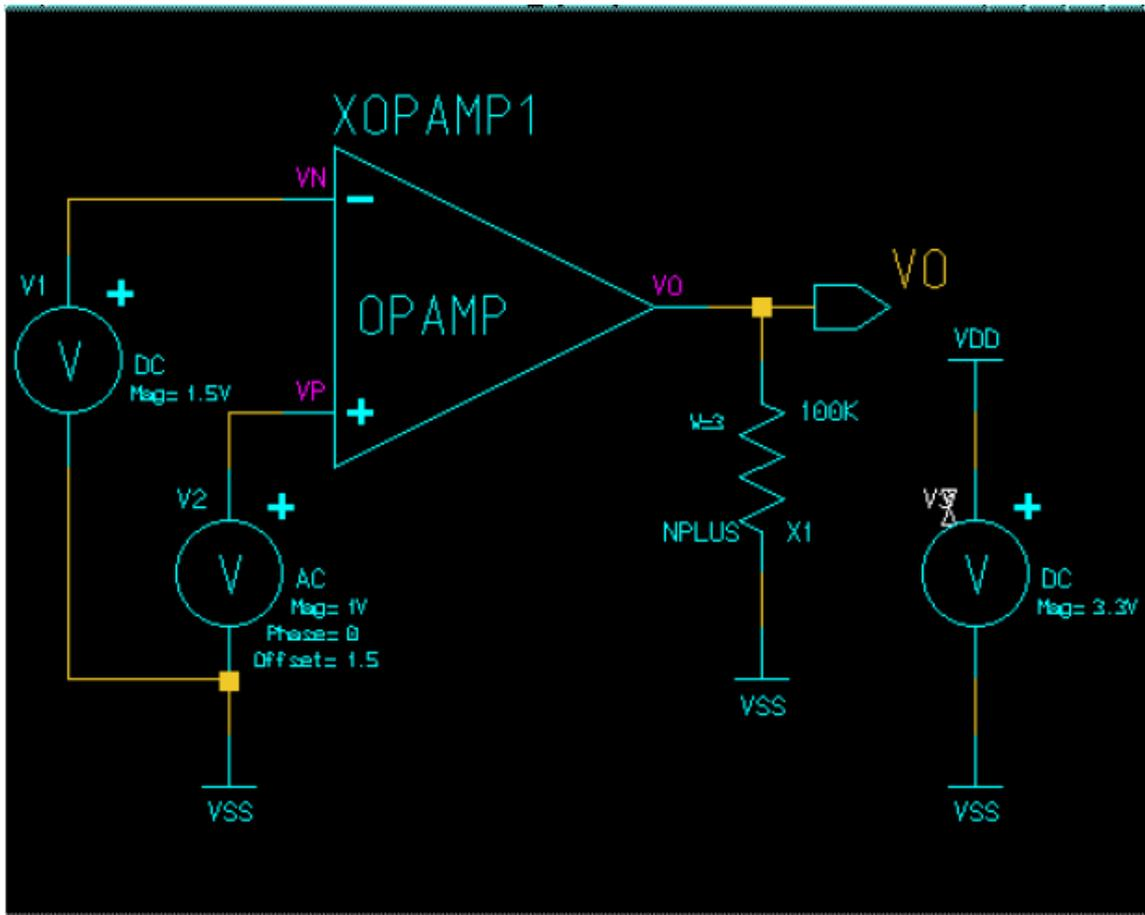

Figure 4.1 Creating a Test bench
**Step 4** Select *Library* to change the palette to *ic library*. Place all the components needed to build a test bench as shown in Fig. 4.1. Click *Schematic* to return to *schematic edit* palette.
**Step 6** Add an output port and name it 'VO', route the schematic as shown in Fig. 4.1. *Check & Save* the test bench.